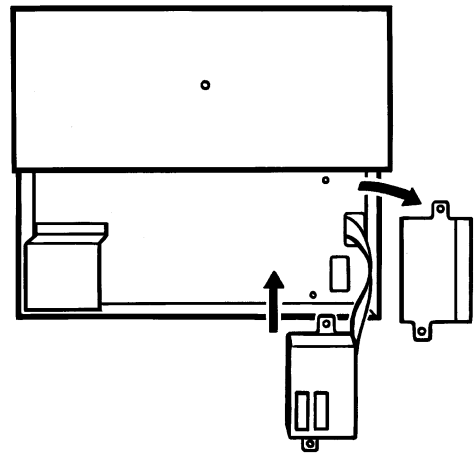

Figure 2.2.2g Comms module fitting
10. At the rear of the recorder, remove the blanking plate, and fit the communications module (figure 2.2.2g).